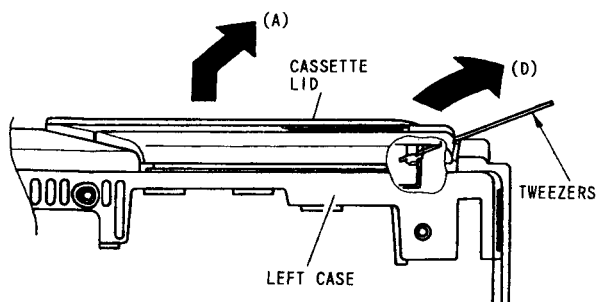
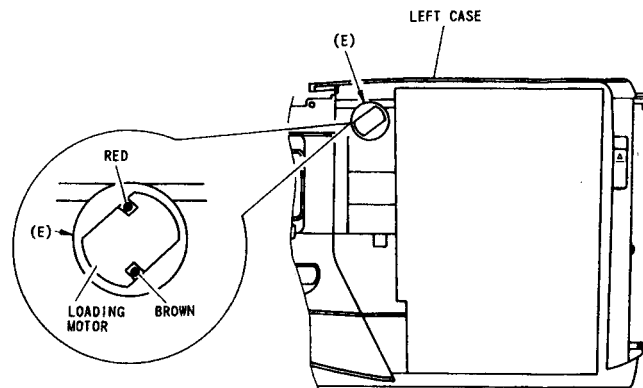
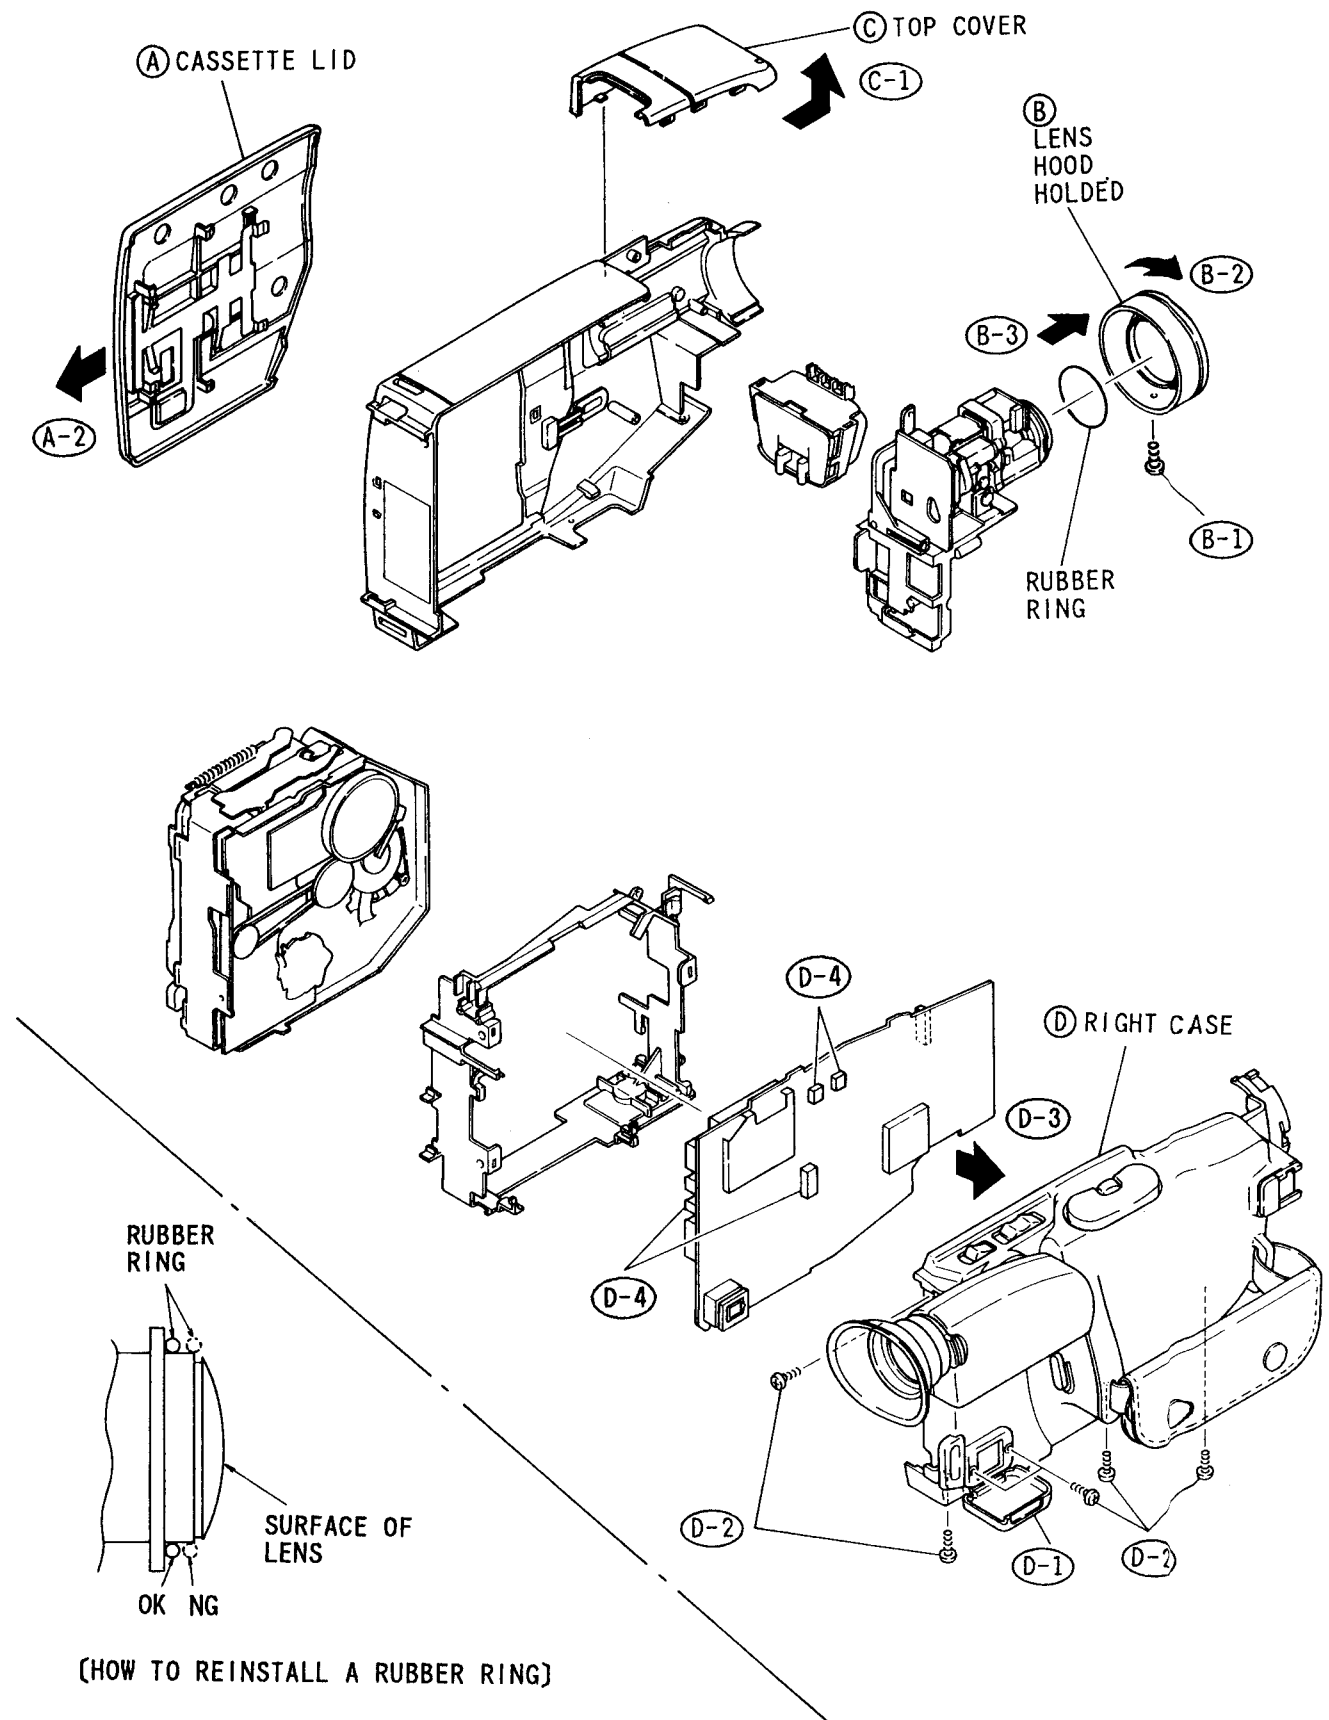

Fig. 2-1
Fig. 2-2
Fig. 3-2
- 1) Lift the cassette lid in the direction of arrow (A) and insert tweezers between the cassette lid and left case. (Fig. 2-1)
- 2) Release two (2) tabs (C) of the plate spring in the cassette lid in the direction of arrows (B) and remove the cassette lid in the direction of arrow (D).
Note: If the electrical circuit is defective, connect a power supply directly to the loading motor that can be seen through hole (E) in the left case; the camera/recorder can be set to the eject state. (Fig. 2-2) Be careful of the following when supplying power.
- ① Set the power supply to 3-5 V DC. (Do not apply more than 5V as this could result in a secondary defect.)
- ② Connect the red wire to the positive terminal and the brown wire to the negative terminal to activate unloading. Connect the brown wire to the positive terminal and the red wire to the negative terminal to activate loading.
- Lens hood holder (Fig. 3-2)
- Top cover (Fig. 3-2)
- Open the right case (Fig. 3-2)
- 2) Remove the cassette lid in the direction of the arrow. (Fig. 3-2)
B. Lens Hood Holder (Fig. 3-2)
- 1) Remove one (1) screw.
Note: The rubber ring is removed on its own when the lens hood holder is removed. Be sure to reinstall the rubber ring as show in Fig. 3-2.
C. Top Cover (Fig. 3-2)
D. Open the Right Case (Fig. 3-2)